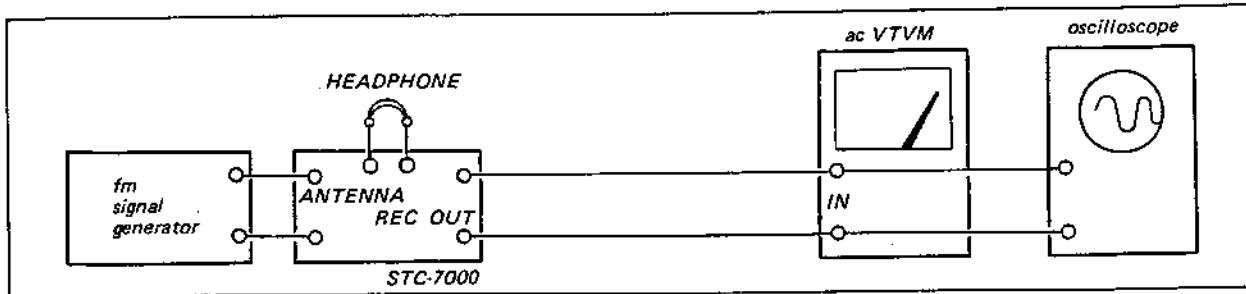

Fig. 3-3. Fm i-f, discriminator, muting and front end alignment test setup
- 1. With the equipment connected as shown in Fig. 3-3, set the signal-generator's controls as follows:
1. With the equipment connected as shown in Fig. 3-3, set the receiver's control as follows:
1. With the equipment connected as shown in Fig. 3-3, set the signal generator's and receiver's controls as follows:
2. Connect the equipment as shown in Fig. 3-3.